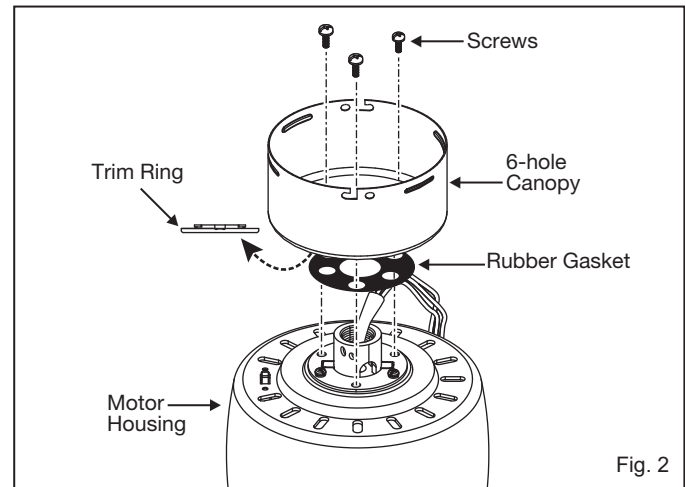

Fig. 2
- 2 Remove the trim ring from the canopy to expose the 6 mounting holes. Feed fan wires through the rubber gasket and canopy and position the canopy over the mounting collar on top of the fan. The collar's 2 security screws will not be used and can be turned all the way into the collar to make attaching the canopy easier. (Fig. 2)
- 3 Loosen the two security set screws and remove the downrod pin and cotter clip from the coupling on top of the motor assembly. (Fig. 2)